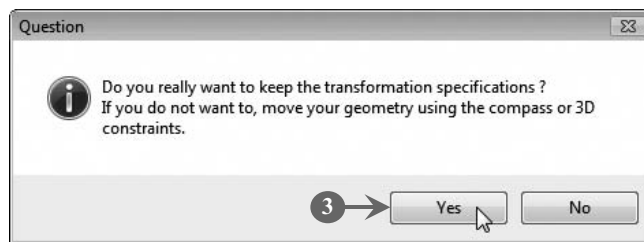

FIGURE 3.91
The **Question** message box appears and prompts the user to either keep the transformation specification or not (**Figure 3.91**).
3. Click the **Yes** button, as shown in Figure 3.91: